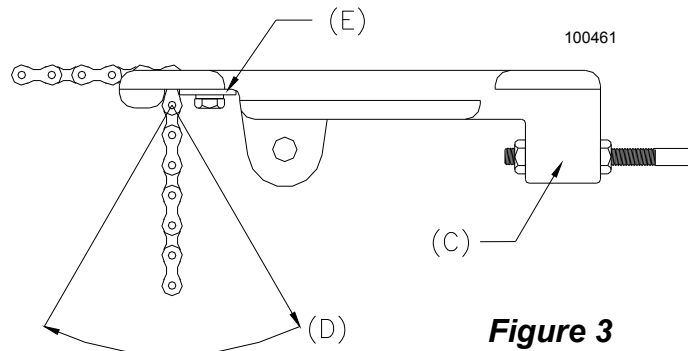

Figure 3
3) Referring to Figure 1, 2 and 3 (below), slide the trolley onto the track with the chain take up bolt lug (C) toward the power head. Thread one 3/8-16 keps nut (attached star washer) onto the Chain take up bolt with the keps part (attached star washer) away from the chain attachment end. Insert the chain take up bolt threaded end through the lug hole on the trolley (C) just far enough to start a second 3/8-16 keps nut. Attach one end of the chain to the opposite end of the threaded stud using a 3-piece chain link (provided). See Figure 3.